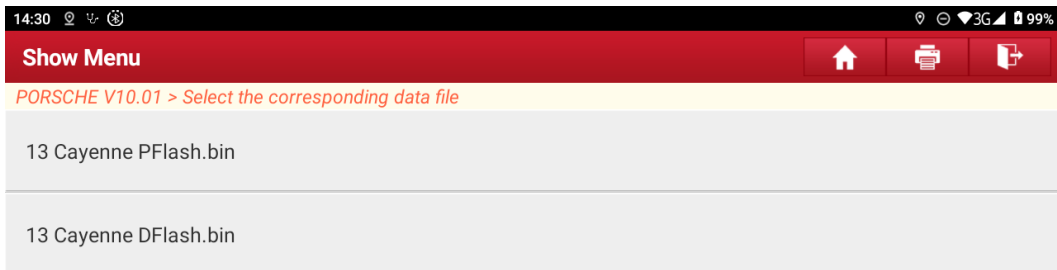

Figure 2-2 Immobilizer data file list
- Choose [Generate dealer keys]. A list of backed up immobilizer data files will pop up, as shown in Figure 2-2.